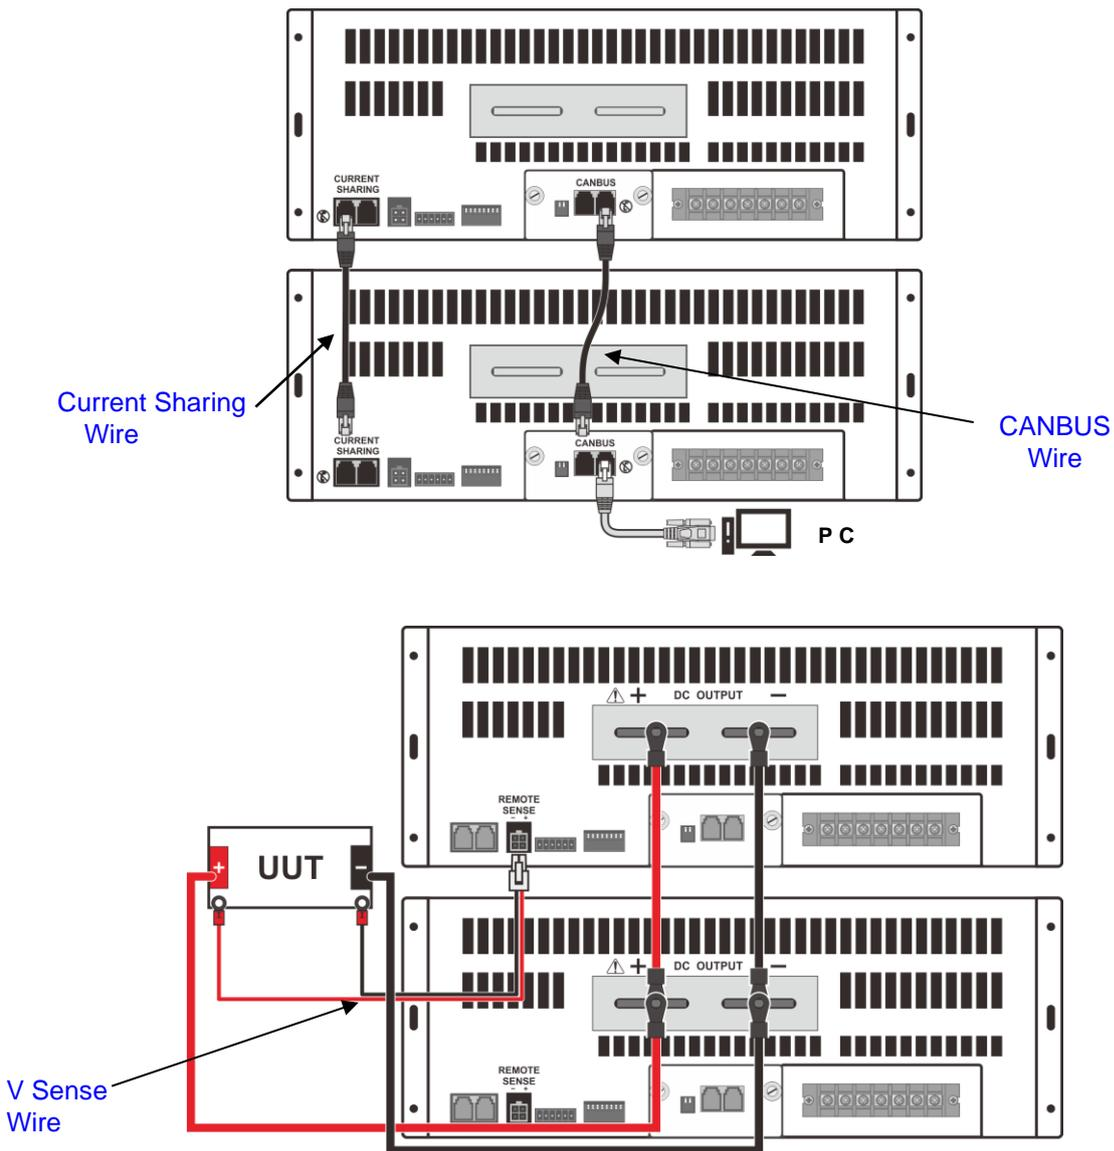

Figure 3-3
When doing parallel connection, please be aware of the following as Figure 3-3 shows:
- CANBUS communication: Use the CANBUS wire to connect to the PC and set the CAN ADDRESS to various positions (see Figure 3-3 and Table 1-2.)